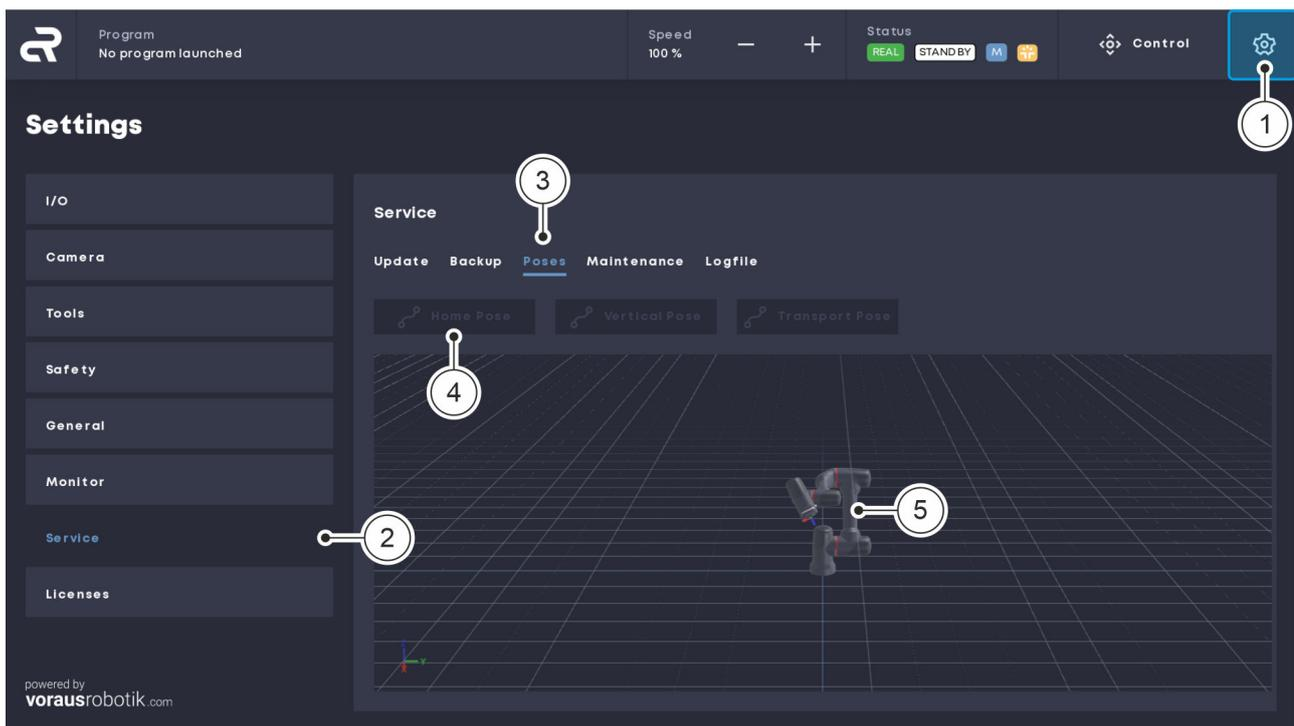

Fig. 40 Moving to the home position
01. In the navigation bar, click on the gear icon Fig. 40 /① to open the 'Settings' menu.
02. In the 'Settings' menu, click the 'Service' button on the left-hand tab to open the service settings window Fig. 40 /②.